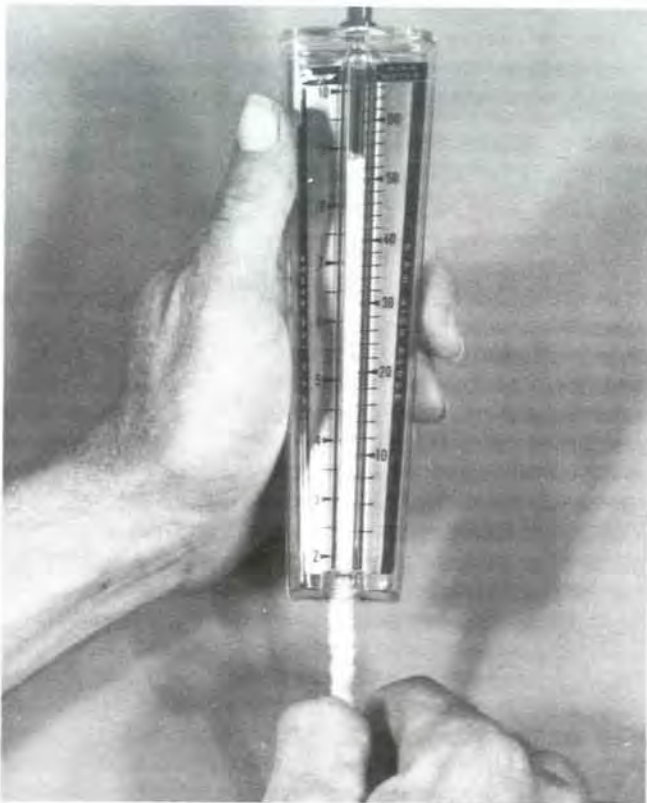

Figure 31.11—Top: cleaning, drying, and removing static from inner tube of Dwyer meter. Bottom: cleaning top stem pinhole.
1. Clean the outer shell (A) with a damp cloth. Do not use cleaning agents that attack plastic.
2. Clean the inner tube (B) by using either the treated pipe cleaners provided with the instrument or regular pipe cleaners (fig. 31.11). Before cleaning the inner tube, unscrew the metal plug (D) at the bottom and carefully remove the white ball (C). After cleaning reinsert the ball and fasten plug.
Drying—If moisture enters the inner tube, unscrew the metal plug and remove the white ball. Clean the tube with a pipe cleaner (fig. 31.11). After all moisture has been removed, reinsert the ball and fasten plug.
Calibration—Proper calibration depends on instrument maintenance in a clean, dry, and static-free condition. Be sure that the pinhole in the top stem (E) is kept clean and open. For cleaning, use nylon bristles provided with the meter (fig. 31.11). Do not use wire, pins, or other objects that might accidentally enlarge the opening.